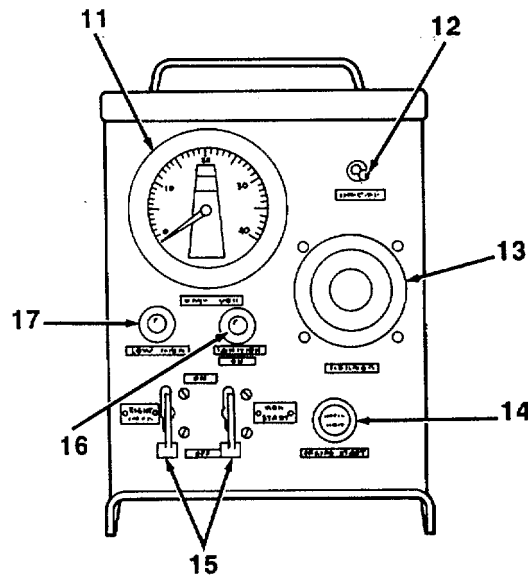

Figure 2-2. Auxiliary Control Box Panel.
•	AUXILIARY CONTROL BOX (See Figure 2-2) a. Check the gages, lights, and switches for damage. b. Ensure that the air control valves operate. c. Ensure that the throttle control operates.